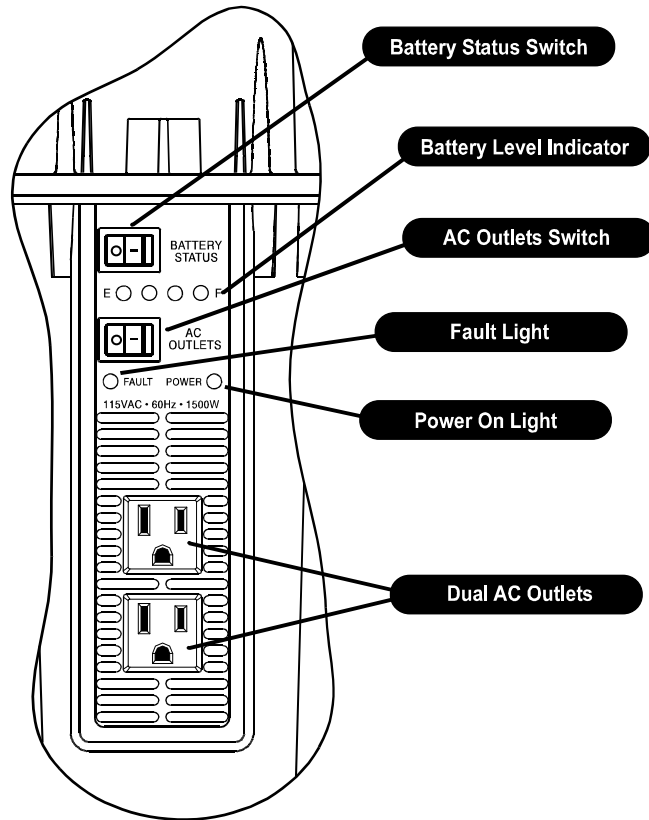

Figure 2-1 AC Power Panel
1. Turn on the AC Outlets Switch located on the AC Power Panel. The green POWER light illuminates to confirm AC power is now on and available at the two AC Outlets. See Figure 2-1, “AC Power Panel” on page 2–5.